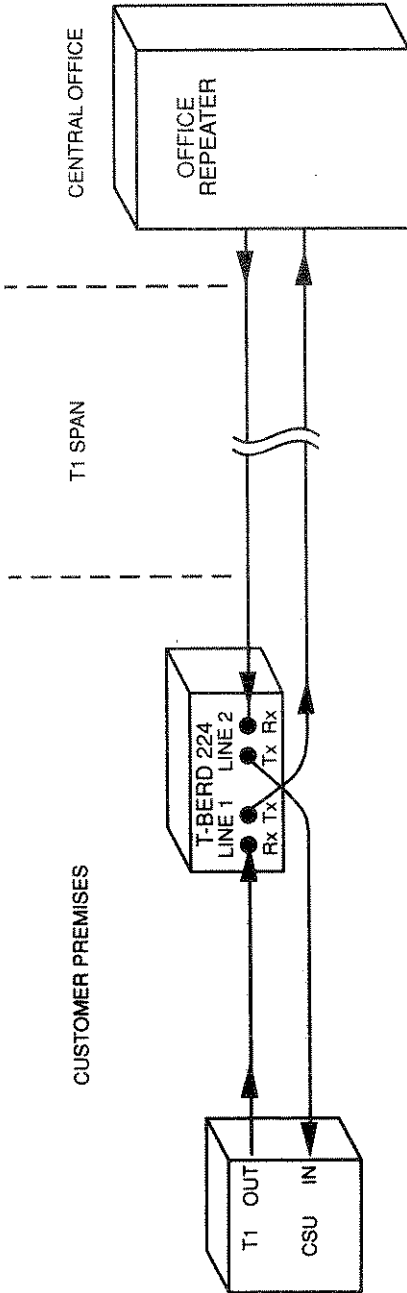

Figure 13-2
This procedure places the T-BERD 224 at the customer premises in line between the T1 span and CSU. The T-BERD 224 is configured to operate over a T1-D4 circuit, respond to an in-band CSU loop code enabling the T1 span to be looped back, and measure simplex current. The T1 span is tested from the central office (CO) with the T-BERD 224 acting as a looped CSU. Figure 13-2 illustrates how the T-BERD 224 connects to the T1 span and CSU and setup to terminate the T1 span. Table 13-9 configures the T-BERD 224 to test for simplex current.